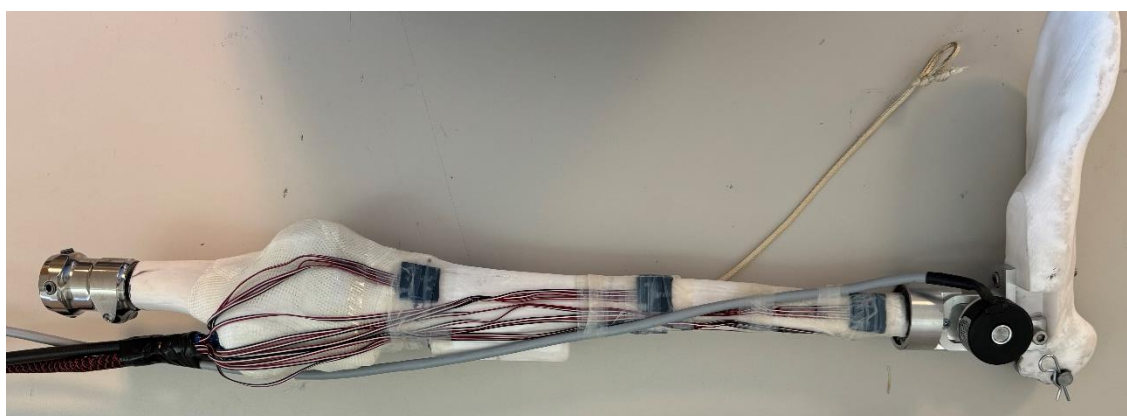

Figure S4: medial view of completed and sensorized musculoskeletal apparatus.
5. Organize and protect the wires with an abrasion resistant braided sleeve. (See Figure S4)